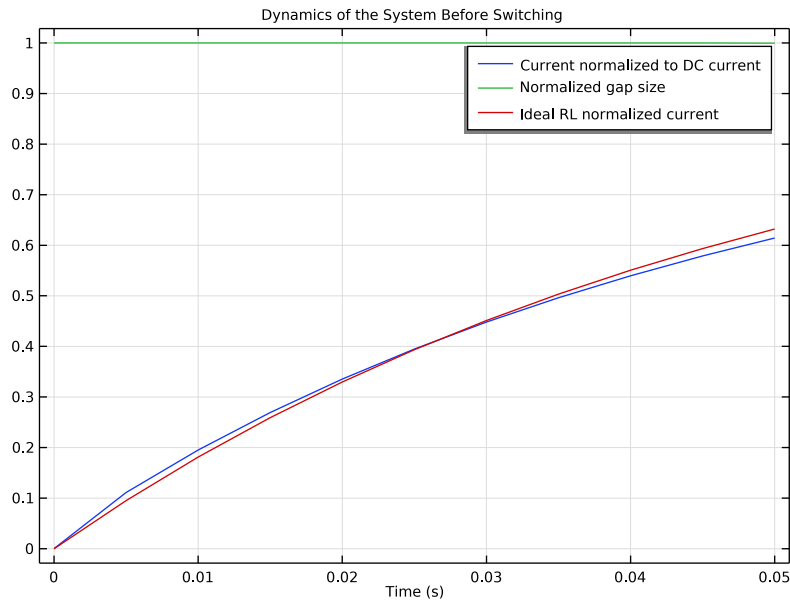
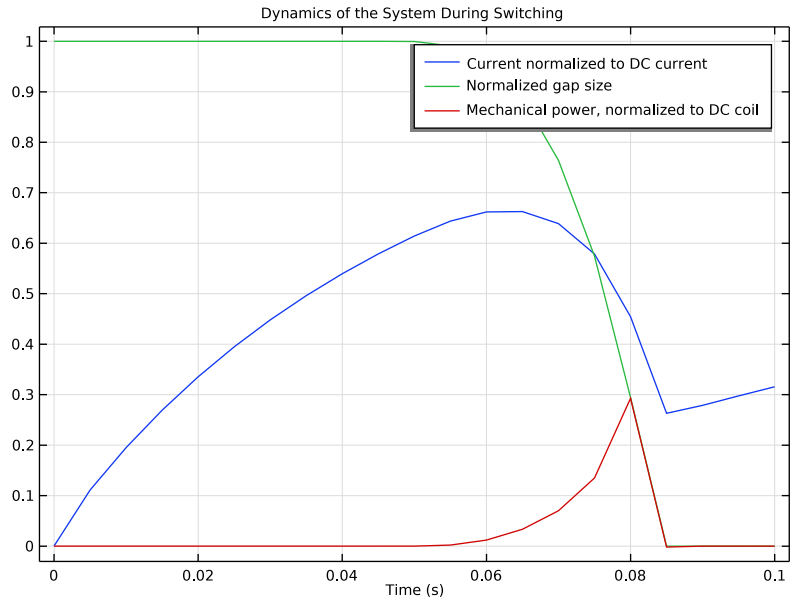
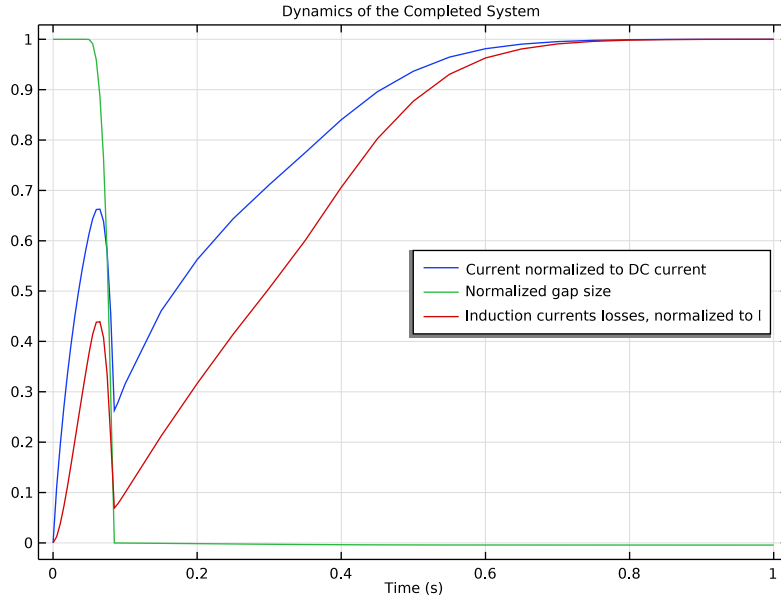
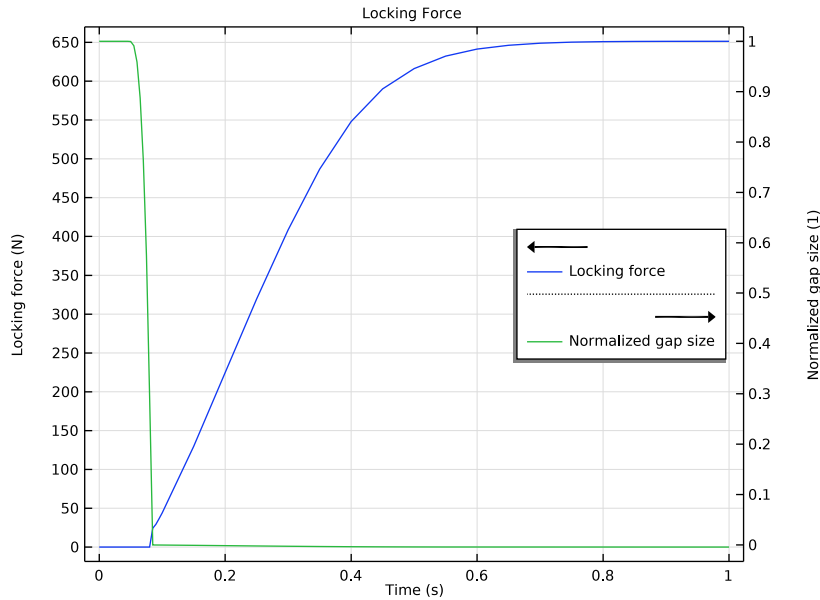

Figure 7: Magnetic flux density norm at $t = 0.1$ s, when the gap is closed.
Figure 8: Magnetic flux density norm at $t = 0.1$ s, when the gap is closed.
Figure 9: Magnetic flux density norm at $t = 0.1$ s, when the gap is closed.
Figure 10: Variation of locking force and gap with time.
- *Before plunger motion:* Figure 7 shows the first stage of the simulation, when the spring is not yet compressed. Blue and green lines represent normalized currents and gap size respectively. Red line is an exponential fit for the RL current dynamics of the initially nonmoving inductor — the response of an ideal system.
- *During plunger motion:* the compression of the spring and the resulting closure of the gap are visualized in Figure 8. Normalized currents and gap size are represented by blue and green lines respectively, the red line showing instead the mechanical power (which is nonzero only during the motion of the plunger).
- *After plunger motion:* Figure 9 refers to the last stage of simulation, when the spring is completely compressed. The red line shows the induction losses in the core, which are significant during the movement of the plunger. Depending on the details of the device and the desired performance, this aspect may need to be taken into account during the
It is worth recalling that blue and green curves in Figure 7, Figure 8, and Figure 9 are representing the same physical quantities — the normalized current and the normalized gap size, respectively. The reason why they look different is the limit of the x axis (time scale). Figure 10 shows the variation of locking force with time.